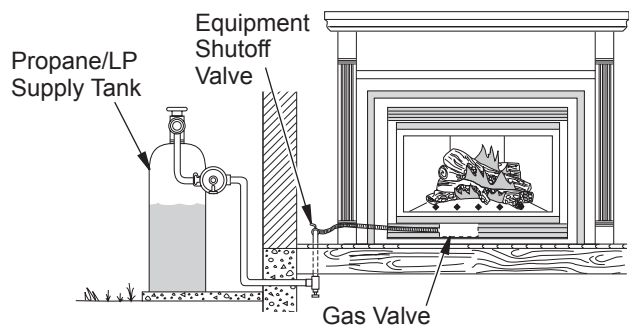
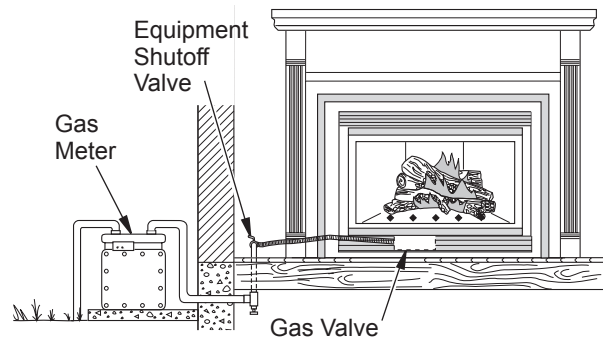

Figure 34 - Checking Gas Joints for Propane/LP Gas Fireplace
Figure 35 - Checking Gas Joints for Natural Gas Fireplace
3. Check all joints from propane/LP supply tank or gas meter to equipment shutoff valve (see Figure 34 for propane/LP or Figure 35 for natural gas). Apply noncorrosive leak detection fluid to all joints. Bubbles forming show a leak. Correct all leaks at once.
4. Check all joints from equipment shutoff valve to gas valve (see Figure 34 for propane/LP or Figure 35 for natural gas, page 19). Apply noncorrosive leak detection fluid to all joints. Bubbles forming show a leak. Correct all leaks at once.